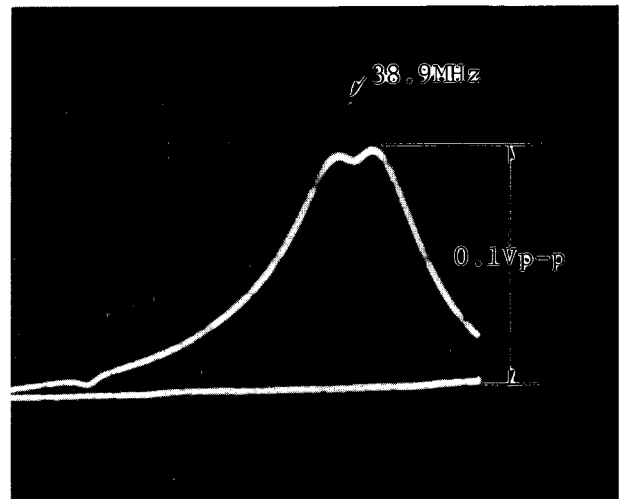

Fig. E7.
9. After this completed adjustment, adjust T706 so that 38.9MHz marker position is shown in Fig. E7.